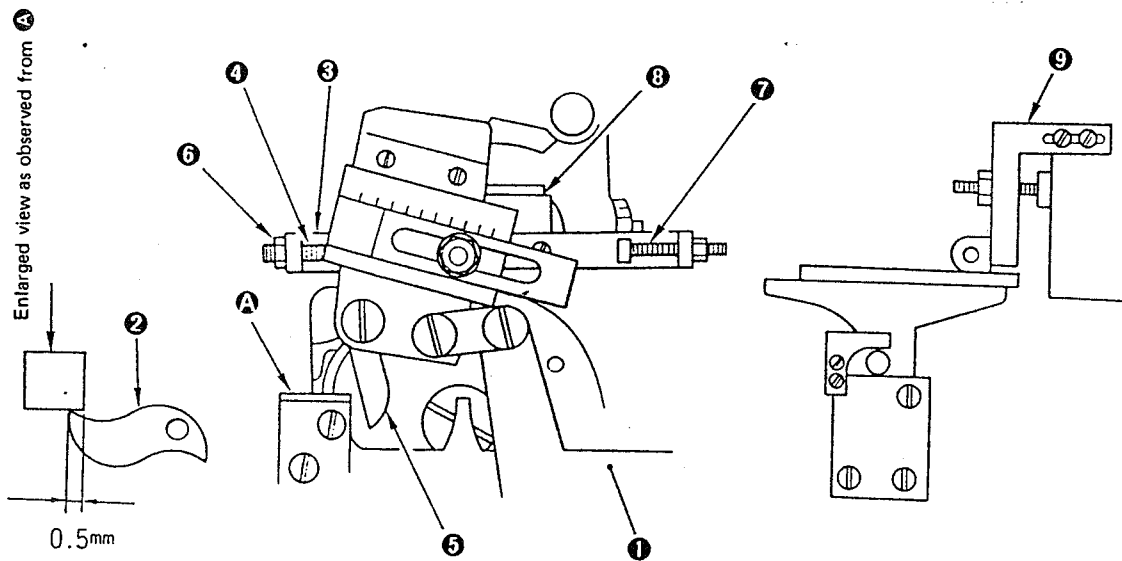

Fig. 46
Changing positioning screw ⑥ shown in Fig. 46 will change the needle entry of the first bartack. So, position the positioning screw so that the troubles in sewing including stitch gathering, thread breakage and stop-motion of the sewing machine do not occur during bartacking. The needle entry at the sewing end is determined using positioning screw ⑦.
Since adjustment ⑥ in Fig. 46 changes the timing of applying tension to the thread at the first bartack, stitches may excessively gather to make a lump of thread or the needle may penetrate the thread resulting in thread breakage. Adjustment ⑦ in Fig. 46 changes the position of the last needle entry at the sewing end. If bartack at the sewing end is not made properly to prevent the stitches from fraying, perform adjustment ⑦.